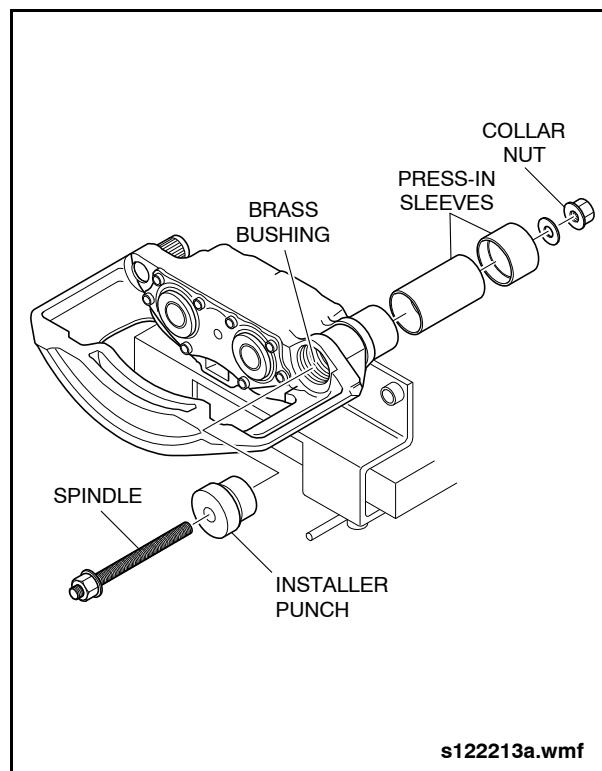

Fig. 2-127: Brass Bushing Removal
- a. Assemble and install the installer punch, press-in sleeves, spindle, and collar nut (Items 72, 77, 75, 71, & 70 from special tools list). See "Fig. 2-127: Brass Bushing Removal" on page 112.